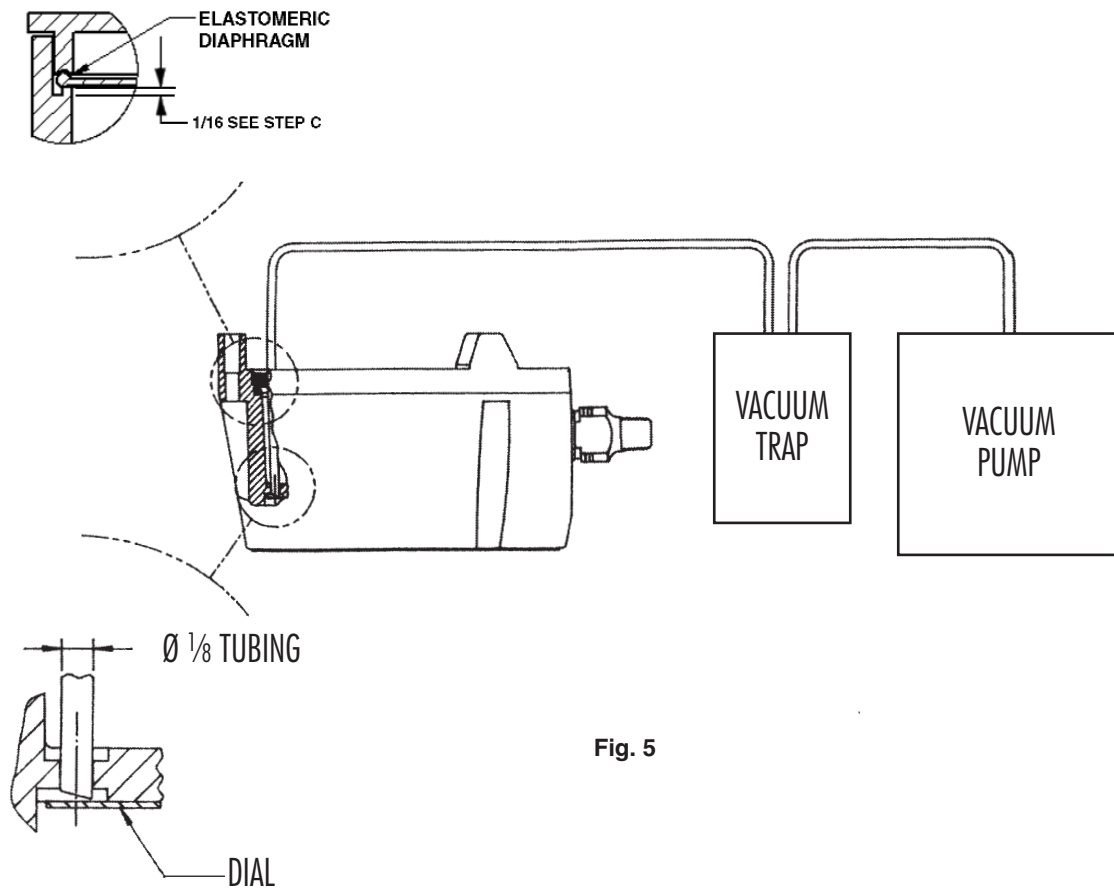

Fig. 5
b. Vacuum Pump Fill Procedure: (This procedure is recommended when filling a large number of gauges.) Place gauge face down and insert a 1/8 inch diameter tube, connected to a vacuum pump, through the 12 o'clock position hole in the rear, solid front portion of the case **(see Fig. 5)**. Evacuate the air from the front dial cavity while pouring in the fill fluid through the case back. The vacuum will displace the air with fluid. When the dial cavity is solidly filled, remove the tubing and continue to pour the fill fluid to within 1/16 inch **BELOW** the O-ring channel lip.